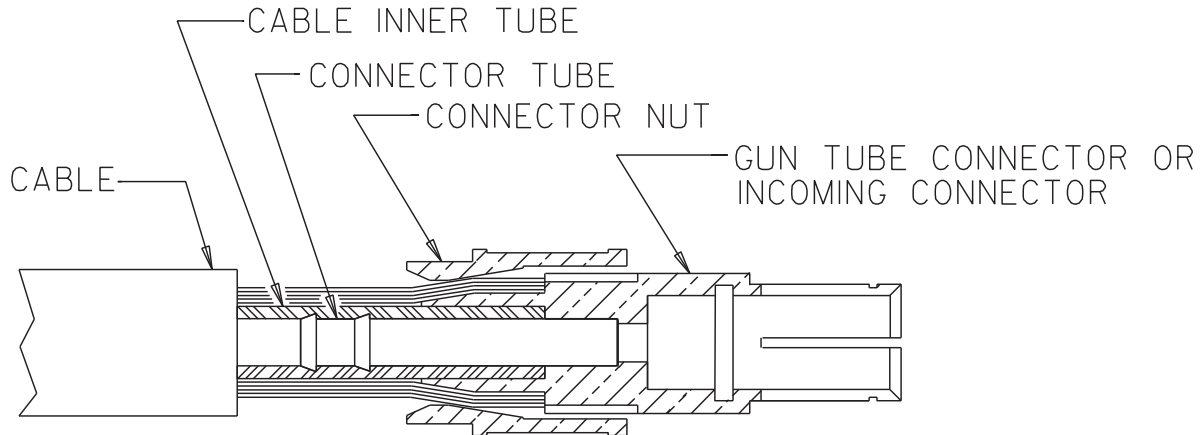

Figure E.4
connector shoulder. Keeping the copper strands against the shoulder, pull the connector nut over the copper strands, engage the gun tube connector threads, and tighten in place. (See Figure E.4).
- h) Check that the cable boot, boot nut, cable handle, collar nut, strain relief, and strain relief housing are on the cable. Slip the connector nut over the copper strands with the threaded end out. Orient the connector assembly so the red and white control leads will have the straightest possible routings to the sockets on the back side of the connector. Assemble the incoming connector to the cable by forcing the steel tube of the connector into the inside diameter of the cable inner tube until the copper strands are butted against the incoming connector shoulder. Keeping the copper strands against the shoulder, pull the connector nut over the copper strands, engage the incoming connector threads, and tighten in place. Refer to Figure E.4.